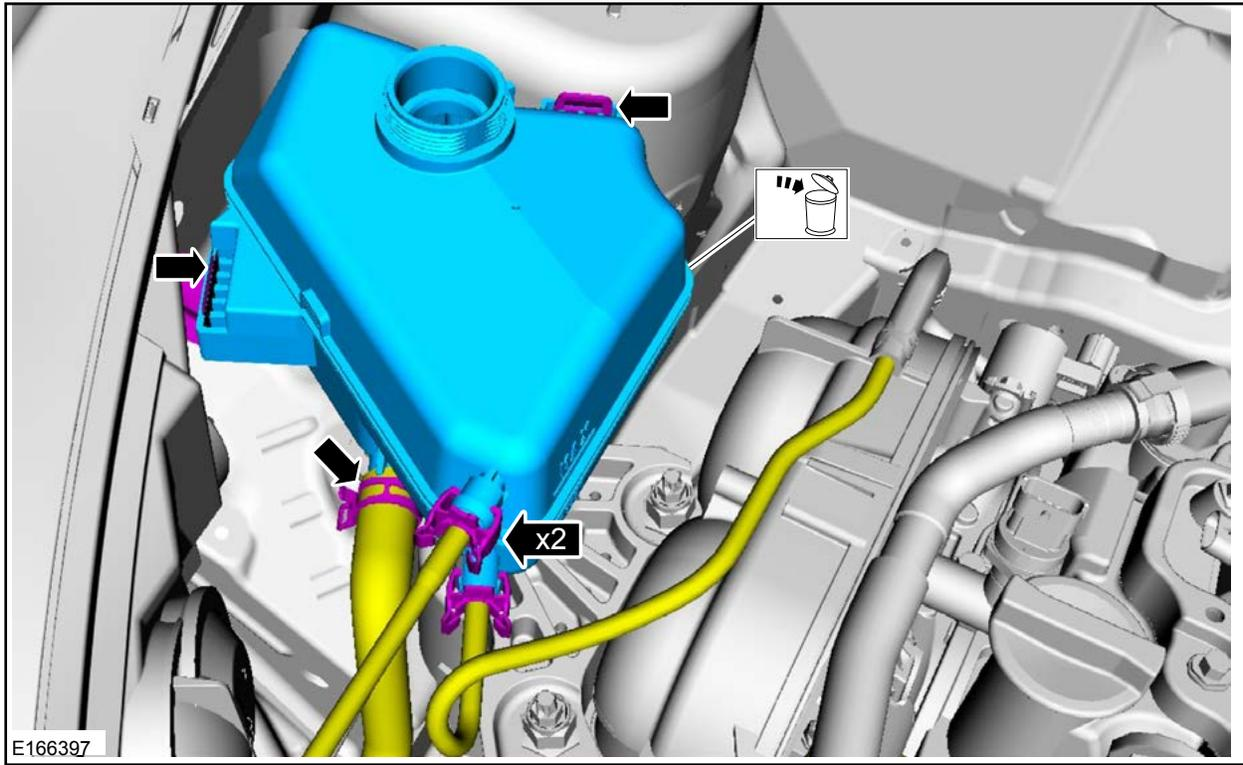

FIGURE I3
2. Remove and discard the degas bottle and cap. See Figure I3.